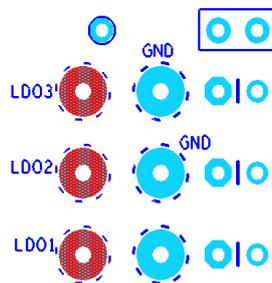

Figure 8. LDO Regulator Load Connection Points
3. Connect loads to the LDO regulator outputs at the pins shown in Figure 8.